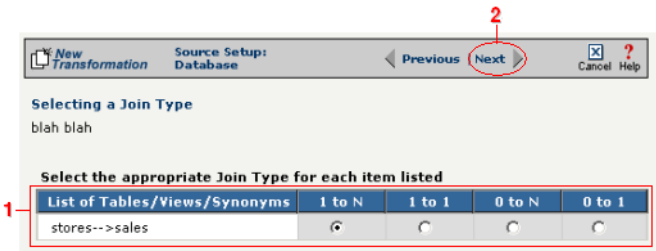

Figure 3-14. This screen lets you indicate the nature of each parent-child relationship.
- 1 Make sure the **1 to N** radio button is selected, as shown in Figure 3-14 below.